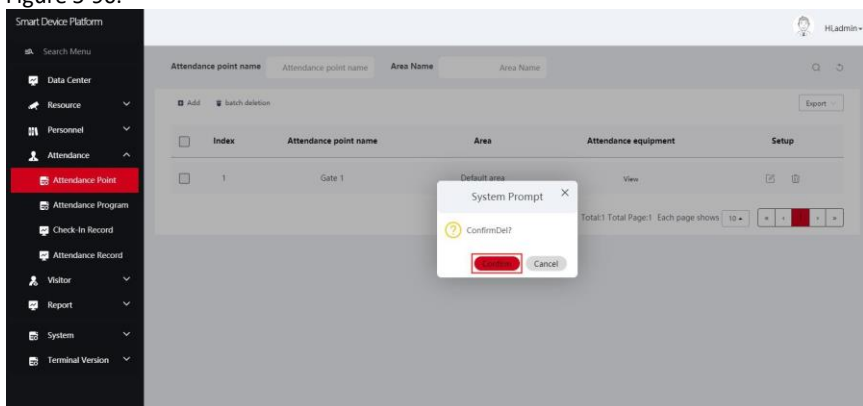

Figure 5-90
Step 2: Click "  → OK" to complete the attendance point to be deleted, as shown in Figure 5-90.